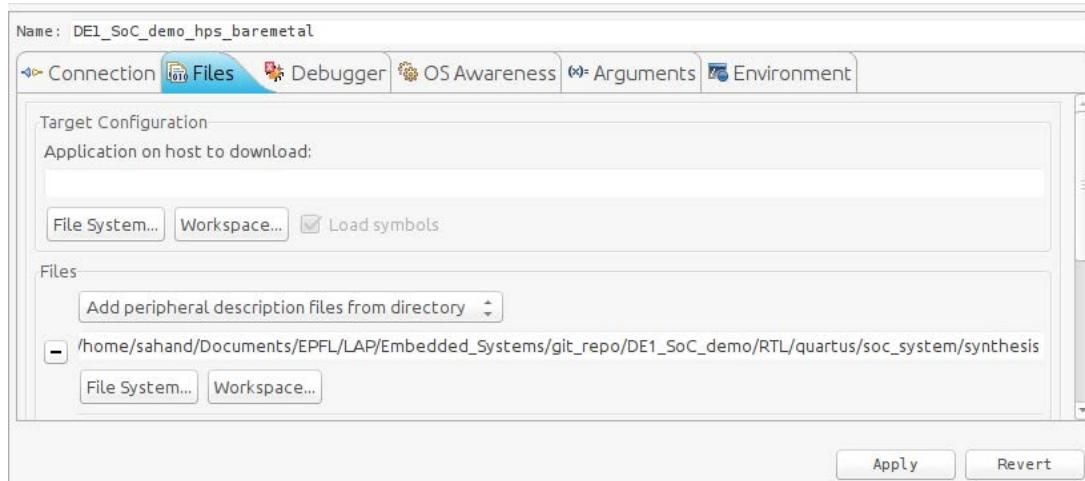

Figure 8-31. Debug Configuration "Files" Tab
- In 8.3.3.2, we configured our HPS to use some FPGA peripherals. We can instruct the debugger about this so it can show more detailed information when debugging. To do this, set the combobox to “Add peripheral description files from directory” and set it to the “DE1\_SoC\_demo/RTL/quartus/soc\_system/synthesis” directory, as shown in Figure 8-31. This directory contains a file called “soc\_system\_hps\_0\_hps.svd” which has information on all of the HPS’ peripherals which are in the FPGA fabric.